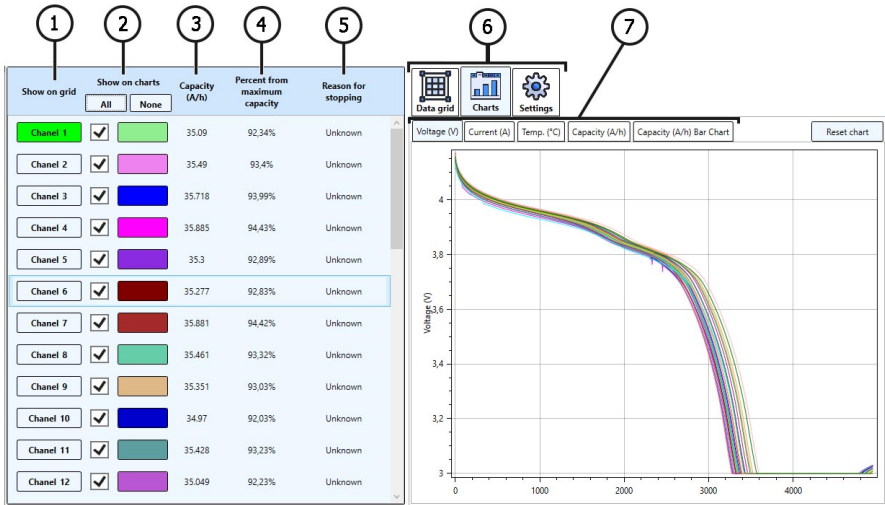

Figure 28
- 5 – Graphical and informational display of tester data (see Figure 28 for explanation).